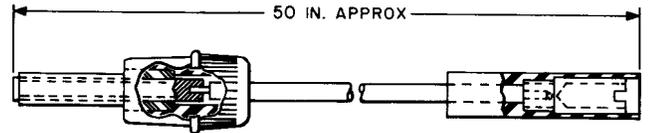

Fig. 19—742A Test Plug Tool
2.19 742A: The 742A test plug tool (Fig. 19) is used with the KS-14510 meter to test load circuits associated with KS-14169 fuse blocks and other fuse blocks used with 70-type fuses in the TD2 Radio Relay System.